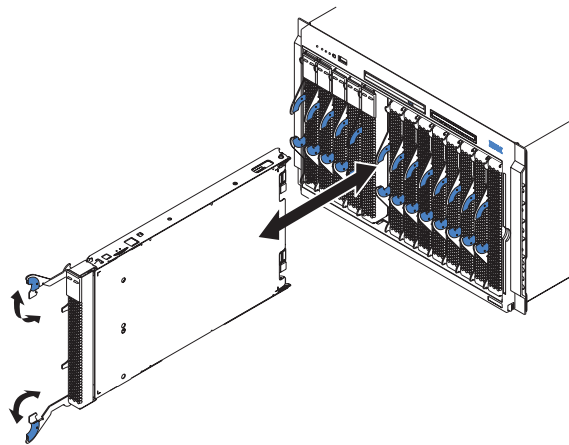
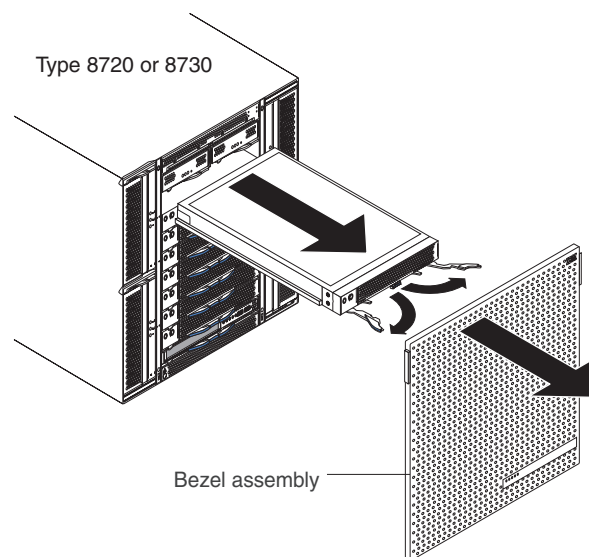

Figure 9. Blade server replacement in the BladeCenter unit Type 8677
Figure 10. Blade server removal in the BladeCenter unit Type 8720 or 8730
Figure 9 shows how to remove the blade server from the BladeCenter unit.
Figure 10 shows how to remove the blade server from the BladeCenter T unit.
2. Open the two release levers (see Figure 9 on page 29 and Figure 10 on page 29). The blade server moves out of the bay approximately 0.6 cm (0.25 inch).